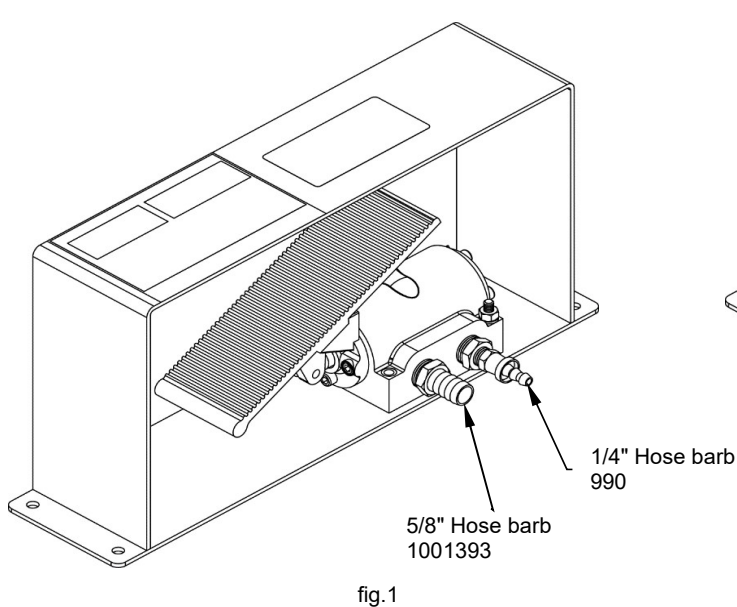

fig.1
Using the 1" hose clamp (1001942), clamp the 5/8" ID air line (1001274) from the lift to 5/8" hose barb (1001393) on the foot control assembly (see fig.1).
Using the #4 hose clamp (720-122), clamp the 1/4" ID air line (720-106) from the lift to hose barb (990) on the foot control assembly (see fig.1).